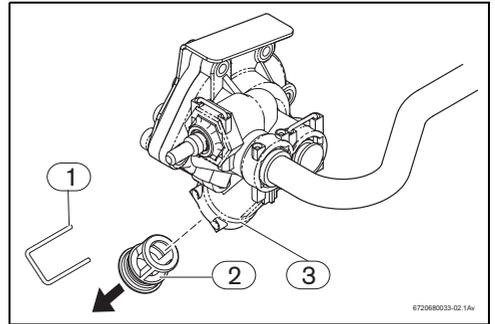

Fig. 9 Purge
- ▶ Remove the retaining clip from threaded bushing (Fig. 9, [1]).
- ▶ Remove threaded bushing (Fig. 9, [2]) from water valve.